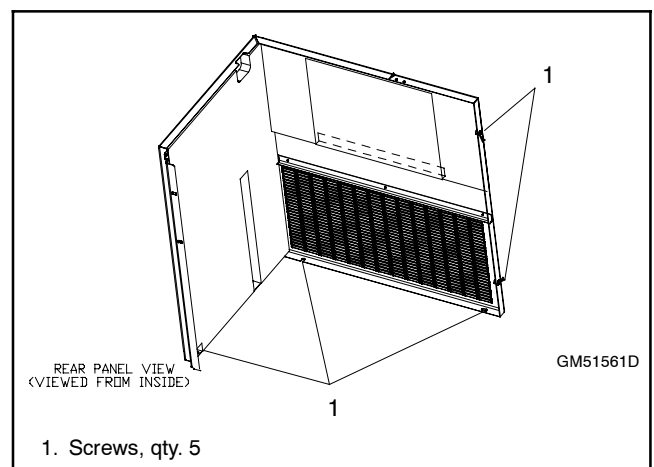

Figure 6-6 Rear Panel Mounting Screw Locations (viewed from inside the enclosure)
14. From the inside of the enclosure, remove five screws to remove the rear (exhaust end) panel. See Figure 6-6.